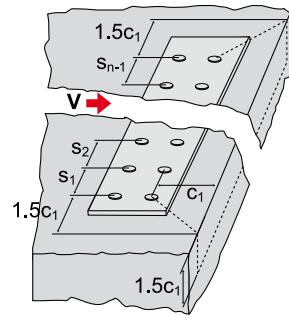

fig.30
- a) The factors  $\psi_b$  take account of both the edge and spacing distances. For example if there are  $n$  anchors aligned parallel to the edge with edge distance  $c_1$  and with spacing  $s_1, s_2, \dots, s_{n-1}$  (fig.30):